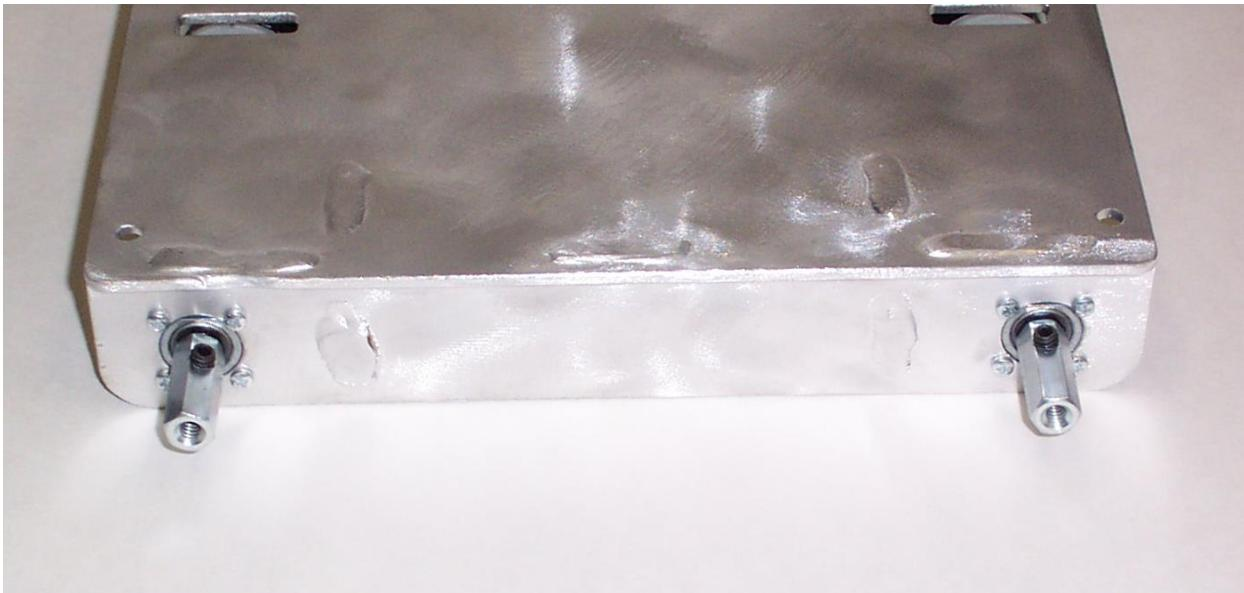

Figure 18: Mini ATR Motor and Shaft Mounting
1. Insert the 4 motors into their spots and secure them with 4 machine screws each. Refer to Figure 18 for details.